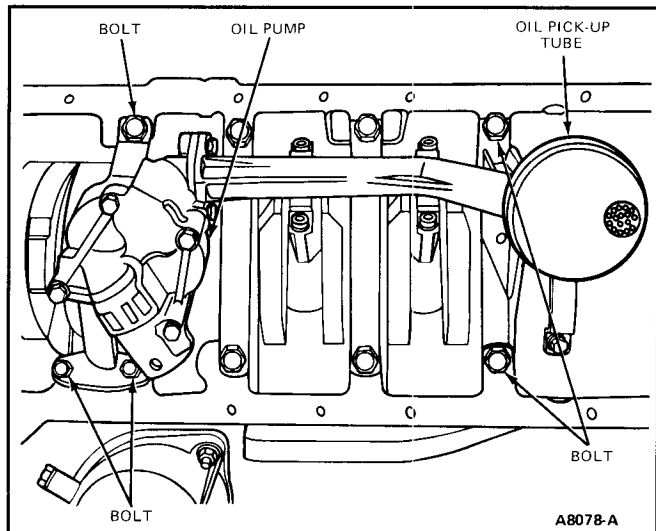

FIG. 46 Oil Pump Installation
2. Remove two bolts attaching oil pump pickup to crankcase (Fig. 46).
3. Remove three bolts attaching oil pump to crankcase, and remove oil pump (Fig. 46).